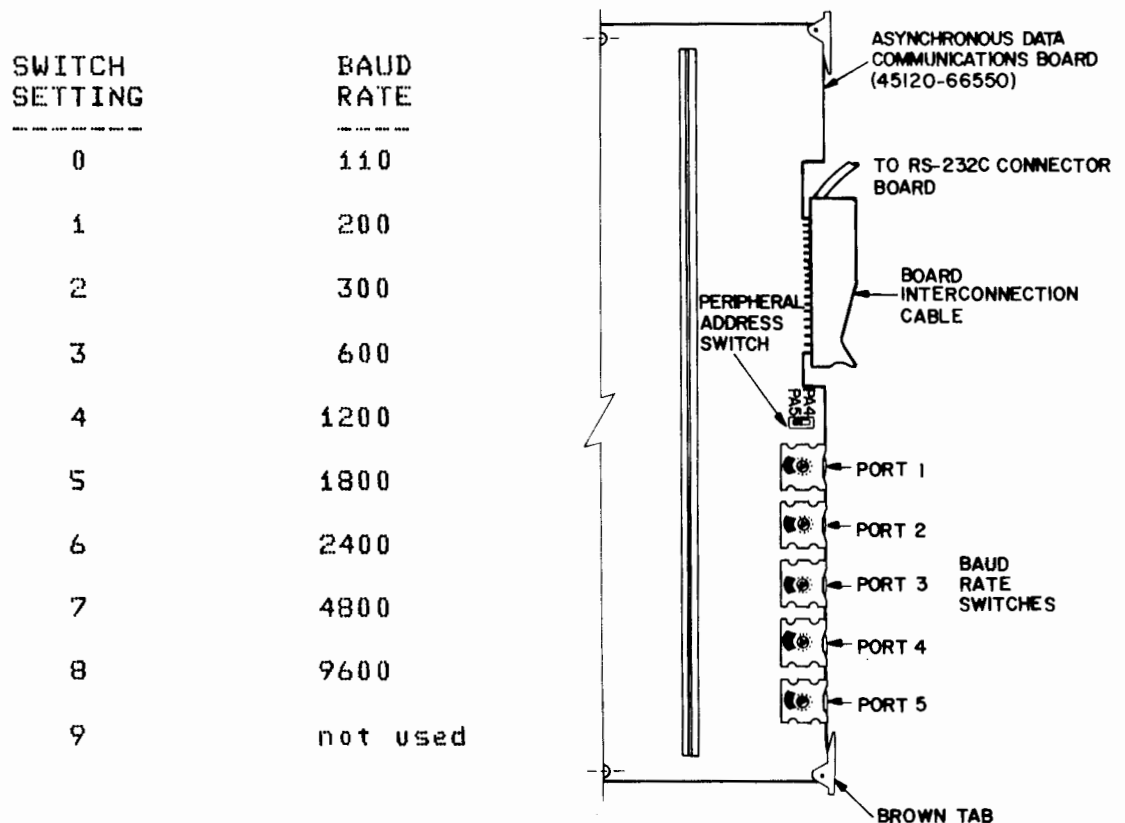

Figure 8-2: Baud-Rate and PA Switches
13. Set the baud-rate switches as required for each port. See Figure 8-2: Baud-Rate and PA Switches.
14. Set the Peripheral Address Switch to PA5. This will ensure that the left-most port is Port 1 and the right-most port is Port 5. See Figure 8-2: Baud-Rate and PA Switches.
The baud-rate and PA switches are located on the Asynchronous Data Communication Board, as shown in Figure 8-2. Each baud-rate switch must be set to match the baud-rate for the device connected to the corresponding port.